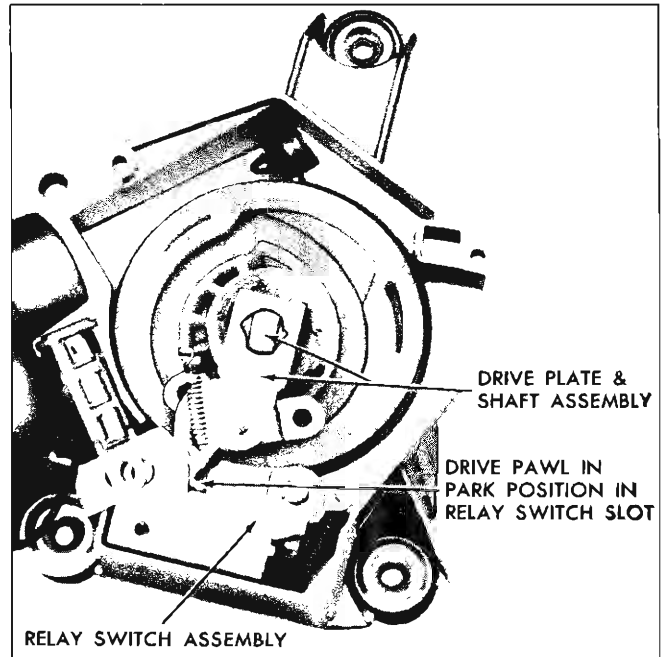

Fig. 64—Drive Pawl in Full Park Position
2. If wiper pawl is in full park position (drive pawl located in magnetic switch assembly slot, fig. 64), it becomes necessary to remove gear assembly first (see Gear Assembly Removal).